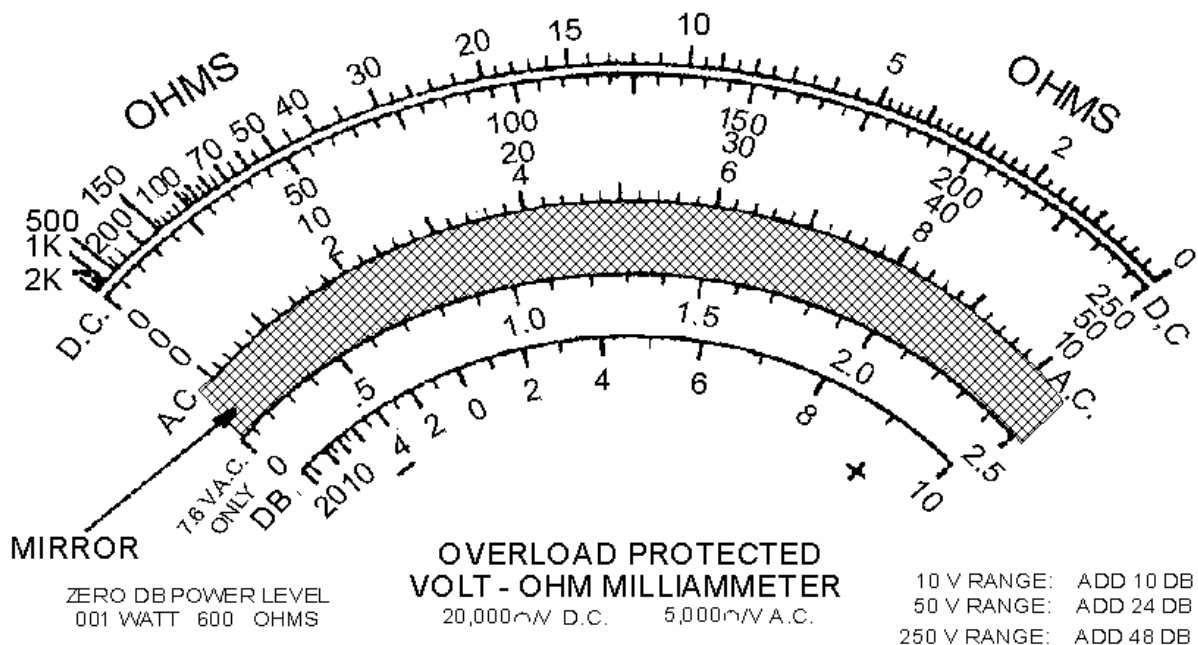
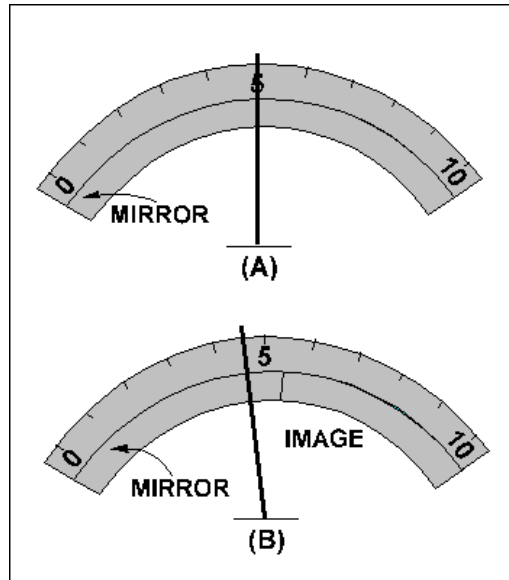

Figure 1-39.—A multimeter scale with mirror.
Figure 1-42.—A parallax error on a meter with a mirrored scale.
Most multimeters (and some other meters) have a mirror built into the scale. Figure 1-39 shows the arrangement of the scale and mirror.
The mirror on the scale of a meter, shown in figure 1-39, helps get rid of parallax error. If there is any parallax, you will be able to see the image of the pointer in the mirror. If you are looking at the meter correctly (no parallax error) you will not be able to see the image of the pointer in the mirror because the image will be directly behind the pointer. Figure 1-42 shows how a mirror added to the meter in figure 1-41 shows parallax error. Figure 1-42(A) is a meter with an indication of 5 units. There is no parallax error in this reading and no image of the pointer is seen in the mirror. Figure 1-42(B) shows the same meter as viewed from the right. The parallax error is shown and the image of the pointer is shown in the mirror.